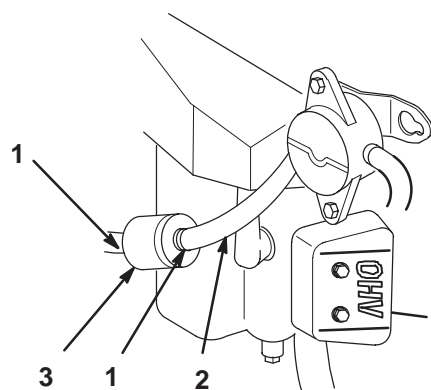

Figure 34
2. Close fuel shut-off valve at fuel tank (Fig. 34).
3. Squeeze the ends of the hose clamps together and slide them away from the filter (Fig. 34).
6. Open fuel shut-off valve at fuel tank (Fig. 34).
7. Check for fuel leaks and repair if needed (Fig. 34).